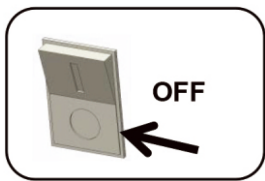

Fig. 1
1. Turn off the power to the luminaire. (Fig. 1)